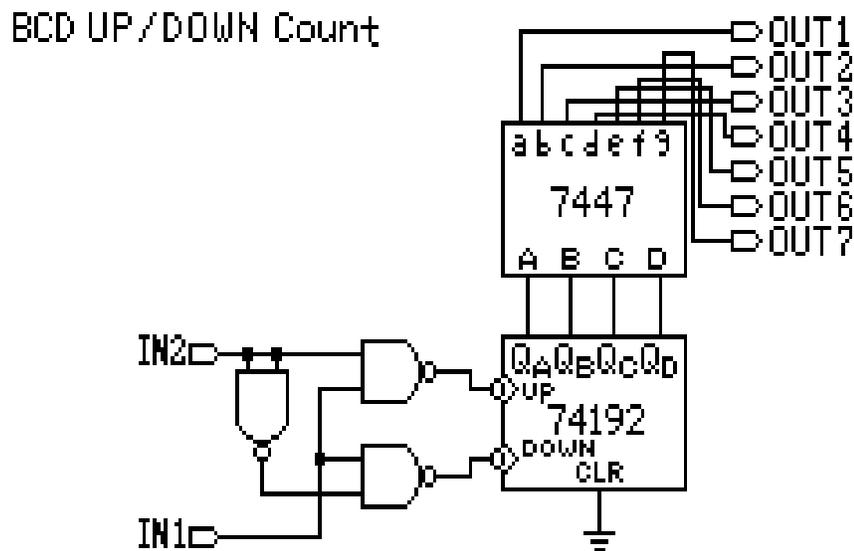

Figure 7-11
1. BCD up/down counter circuit, as Figure 7-11